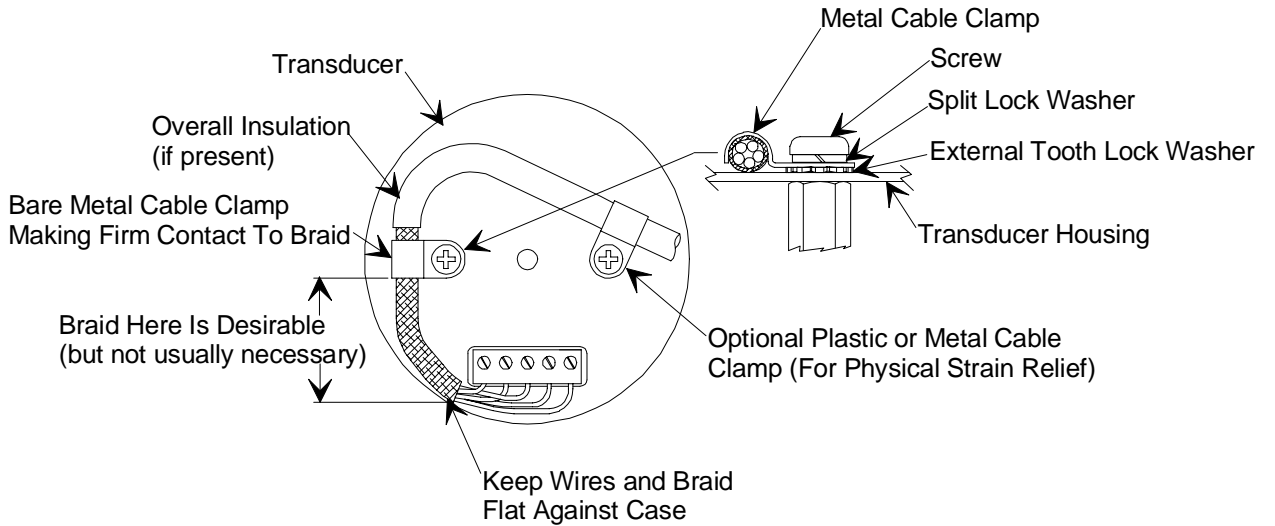

Figure 4: Preferred Method
4. For shielded cables with flying leads at one or both ends; it is important at each such end, to ground the shield *before* the wires exit. Make this ground with absolute minimum length. Refer to Figures 4 and 5, page 17. (A ¼ inch piece of #22 wire may be undesirably long since it has approximately 5 nH of inductance, equivalent to 31 ohms at 1000 MHz). After picking up the braid's ground, keep wires and braid flat against the case. With very few exceptions, grounded metal covers are not required over terminal strips. If one is required, it will be stated in the Declaration of Conformity or in the instruction manual.